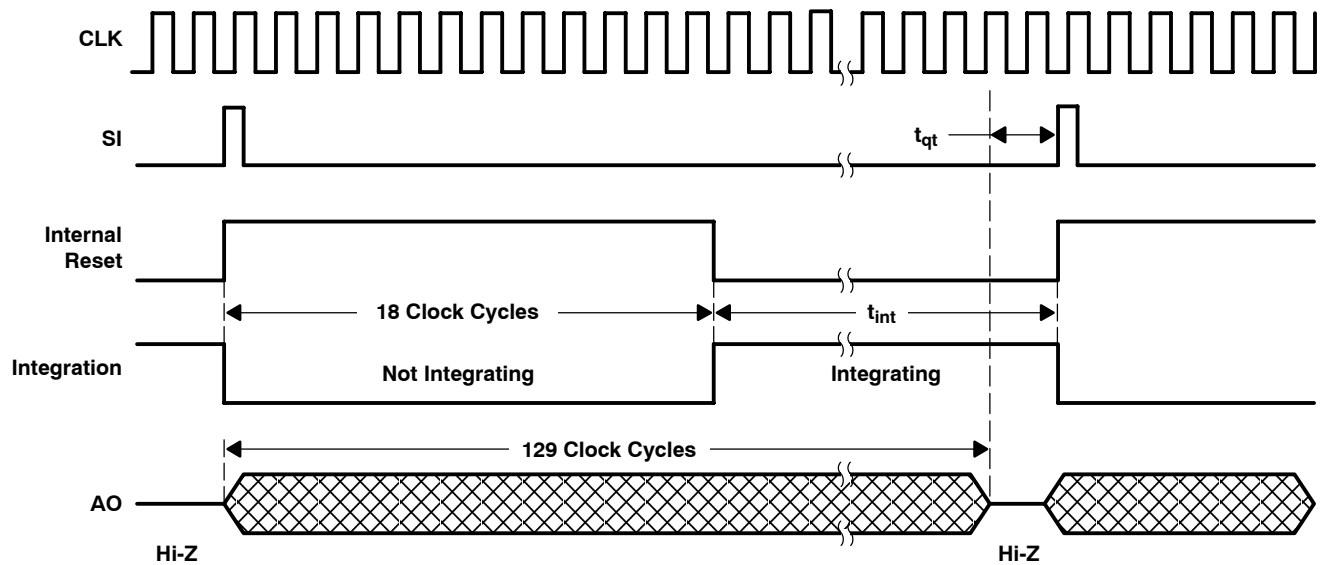
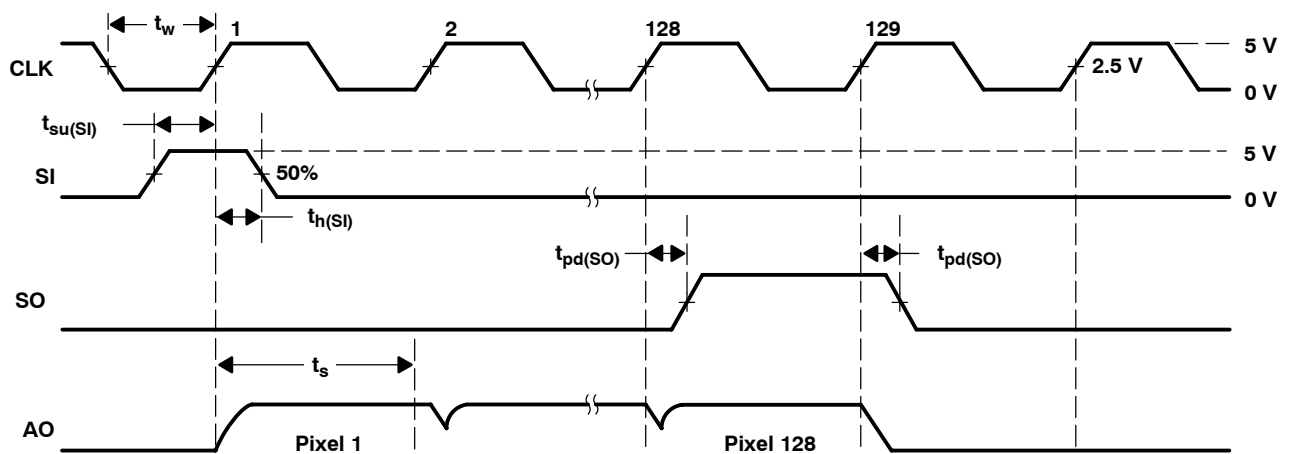

Figure 1. Timing Waveforms
Figure 2. Operational Waveforms
**Recommended Operating Conditions (see Figure 1 and Figure 2)**
### Timing Requirements (see Figure 1 and Figure 2)